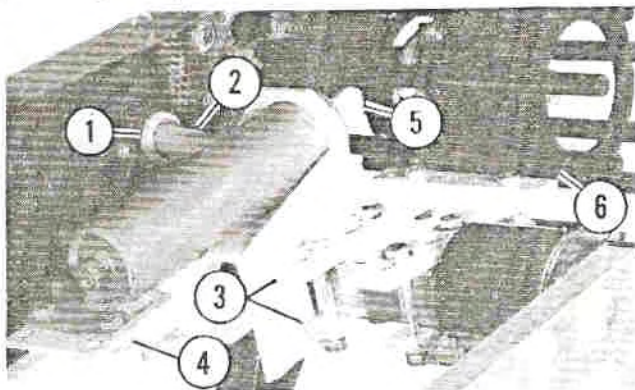

Fig. 6
Mount cylinder and cylinder frame as shown in Figures 6 or 7 and parts illustration. Attach rear of cylinder frame assembly to center frame of Trackster using an 823914 bracket, two (2) 301431 screws, and two (2) 800292 nuts. Do not tighten hardware at this time.
Reinstall scraper set as shown in Figure 6. "Inner" scraper clamp brackets must hold cylinder frame inward against torsilastic. Adjust scraper to 1/4" clearance. Torque hardware to 30 ft. lbs. See Figure 6. Adjust and tighten rear of cylinder frame to Trackster center frame so that cylinder ram clears sprocket web by a minimum of 1/8". Clearance can be obtained by moving rear of bracket assembly away from body of Trackster. (See Figure 6)